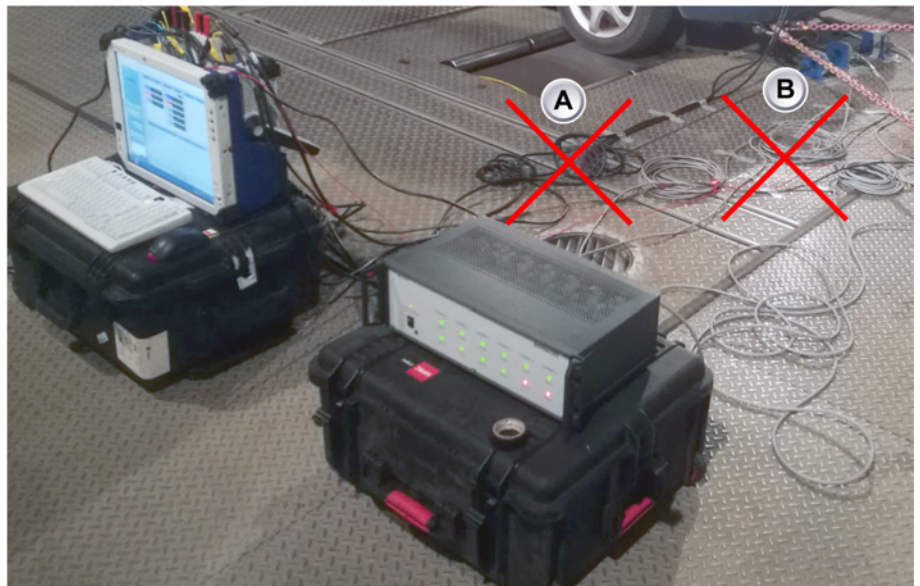

Figure 5.1: Cable loops induce *electromagnetic interference*
- Choose the right length of voltage and current cable and avoid rolling up cables as shown in Figure 5.1 (A) and (B).